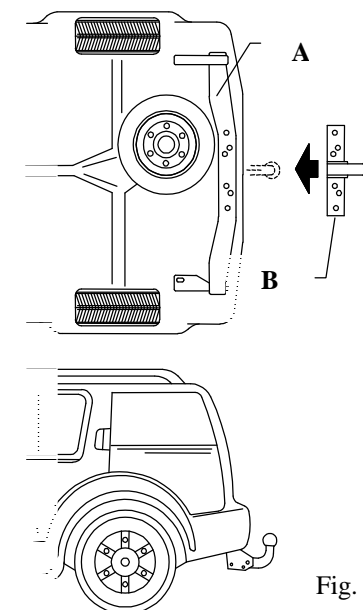

Fig. 3
2. Unscrew original bar (pos. A, fig. 3) from chassis frame.
3. Fix main bar of the towbar (pos. B, fig. 3) to unscrewed bar (pos. A, fig. 3) using bolts M12x90mm (pos. 4).
5. Reinstall bar (pos. A, fig. 3) to chassis members.